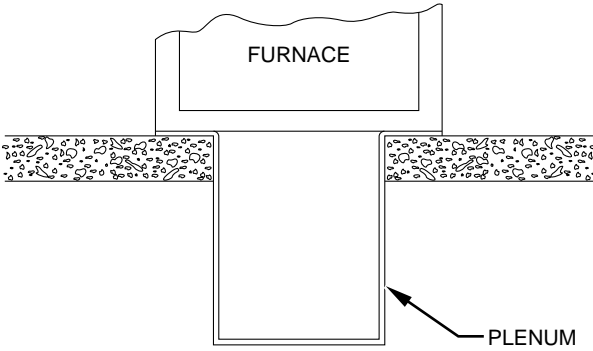

Fig. 5—Furnace on a Concrete Slab (Non-Garage Installation)
2. Install plenum and furnace as shown in Fig. 5.